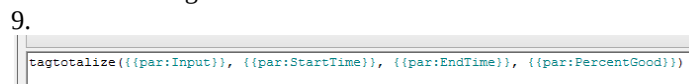

Figure 8 TagTotalize with Parameters
- Repeat for the remaining parameters so the StartTime, EndTime and PercentGood parameters are filled in, as shown in Figure 8.